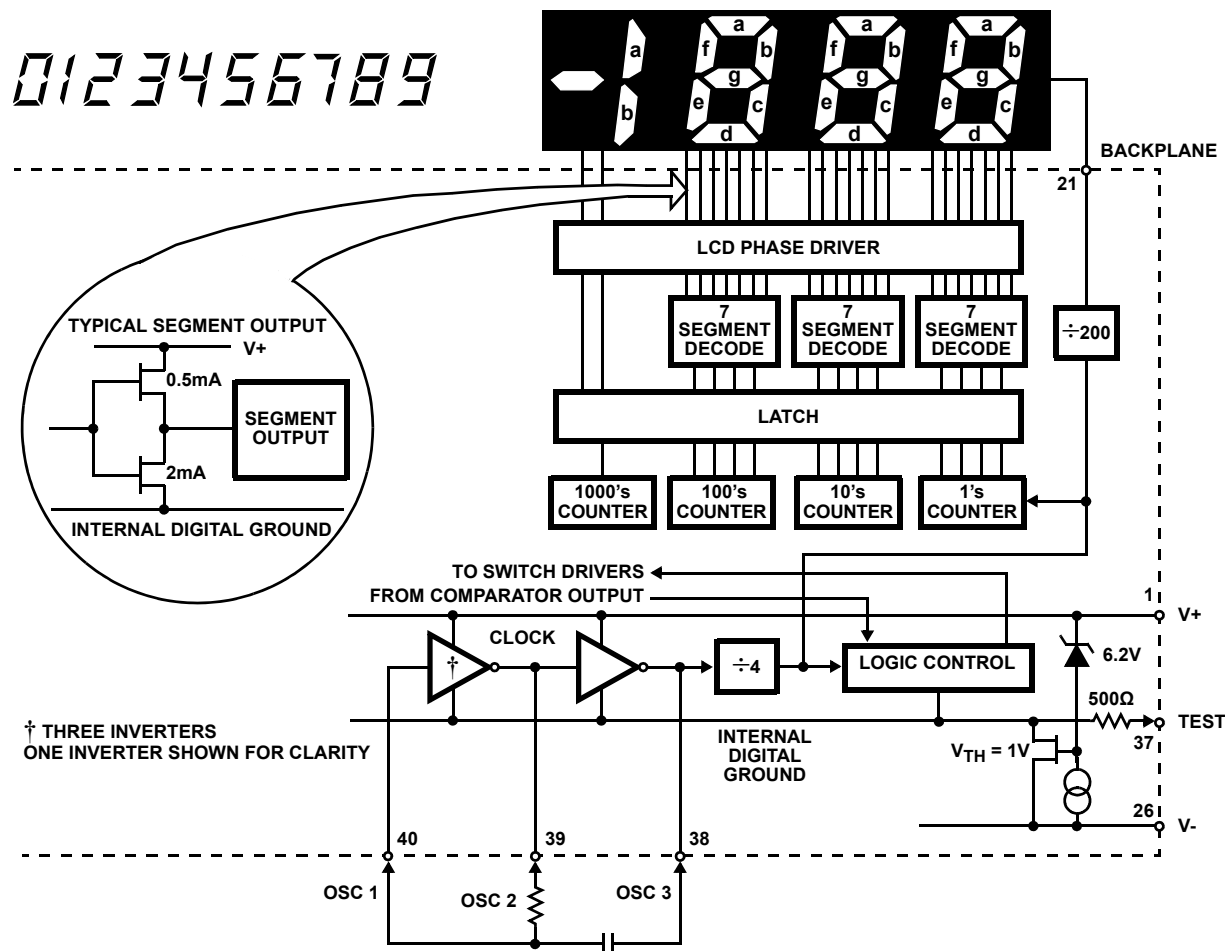

FIGURE 7. ICL7106 DIGITAL SECTION
Figures 7 and 8 show the digital section for the ICL7106 and ICL7107, respectively. In the ICL7106, an internal digital ground is generated from a 6V Zener diode and a large P-Channel source follower. This supply is made stiff to absorb the relatively large capacitive currents when the back plane (BP) voltage is switched. The BP frequency is the clock frequency divided by 800. For three readings/sec., this is a 60Hz square wave with a nominal amplitude of 5V. The segments are driven at the same frequency and amplitude and are in phase with BP when OFF, but out of phase when ON. In all cases negligible DC voltage exists across the segments.